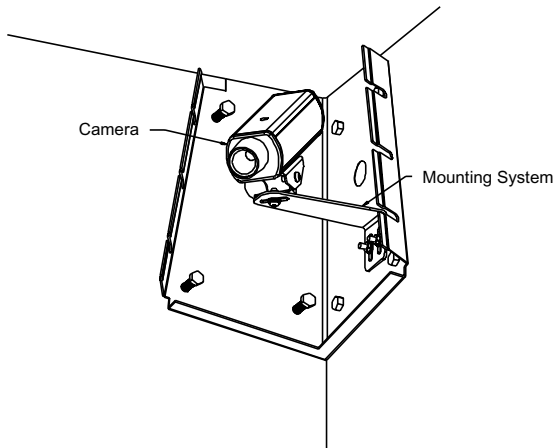

**Figure 9: Securing the Mount System**
1. Reattach the camera mounting system to the rear panel using two 6 mm flange nuts. **See Figure 9.**